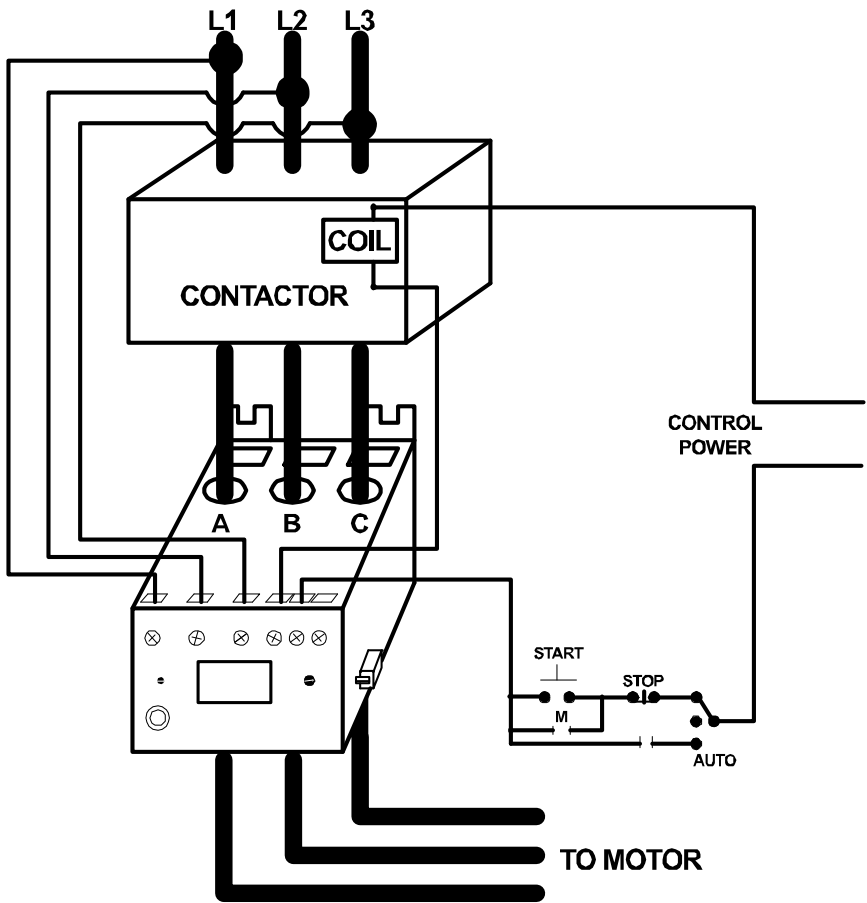

Figure 1: Typical Wiring Diagram
3. a) For amperages from 20-90 amps, insert the motor conductors through the holes marked A, B, and C. Ensure the motor phase conductors correspond with the round hole designations, i.e. the A phase conductor should go through the round hole marked "A". See Figure 1 for a typical wiring diagram.
5. Connect the control circuit wires to the appropriate terminals. The relay is designed for fail-safe operation; the NO (normally open) contact should be in series with the coil on the contactor for motor control (see Figure 1). For alarm circuits, the NC (normally closed) contact is in series with the alarm circuitry.